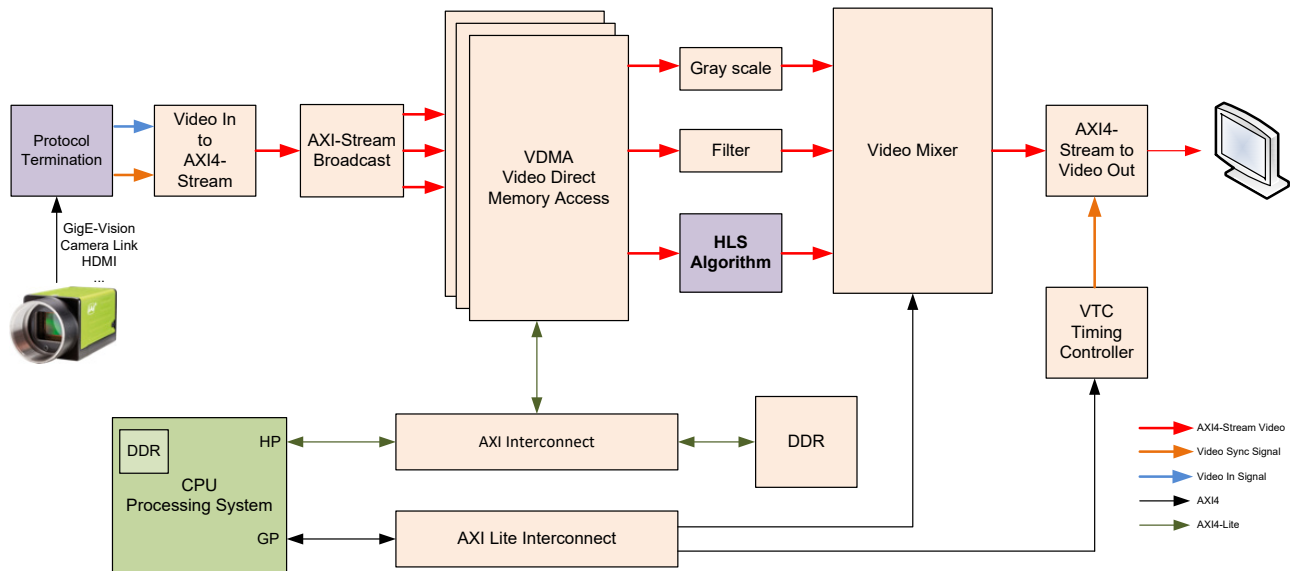

Figure 5: Xilinx image processing platform
Xilinx System on Chip (SoC) FPGAs combine an ARM processor with an FPGA on the same chip. While the ARM processor is used to configure the processing platform and execute software-based algorithms, the FPGA can focus on video processing which is time critical and consumes performance. By using parallel pipeline streaming, the FPGA is more effective in video processing than a CPU. The Xilinx Vivado® software platform provides a graphical programming environment which enables users to build up a system with prebuilt Intellectual Property (IP) blocks for the FPGA. The Vivado library already contains a multitude of IP blocks, which are ready-to-use for building a video processing system. These blocks can be connected to build a typical image processing architecture as shown in Figure 5.